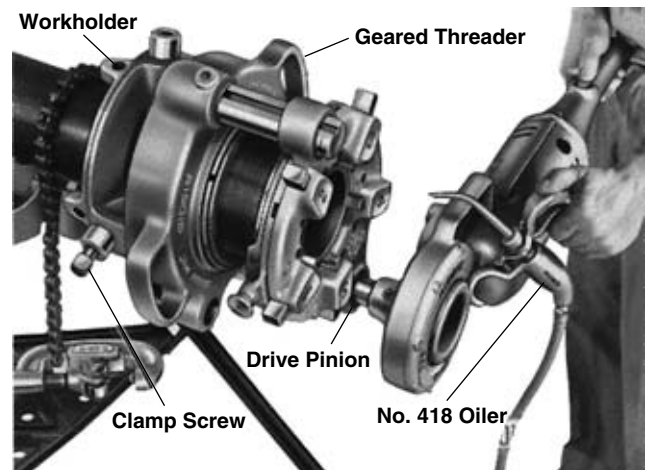

Figure 9 – Threading With Geared Threader
4. Tighten Workholder and Clamp Screw securely with the socket wrench (*Figure 9*).
7. Hold Power Drive handle with one hand and leave other hand free to apply thread cutting oil. Actuate switch button in direction required for threading (*Figure 9*).